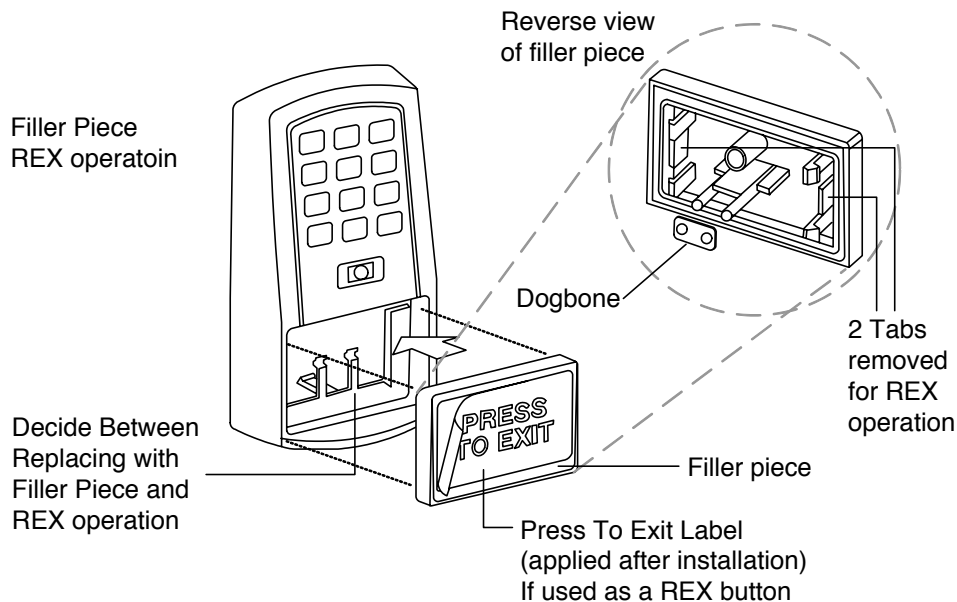

Figure 8 Filler Piece or Internal REX Installation
7. Select Filler or Request to Exit (REX) operation as follows (Figure 8):
- If you elect to use the filler piece as a REX switch, return to the keypad/controller and break off two tabs on the filler piece as illustrated in Figure 8. The filler piece replaces the antenna on the front of the keypad/controller for secure installations.
If you elect to perform a secure installation where the controller is mounted on the secure side of the door, you can use the filler piece as a REX switch. (See page 14, Figure. 8)